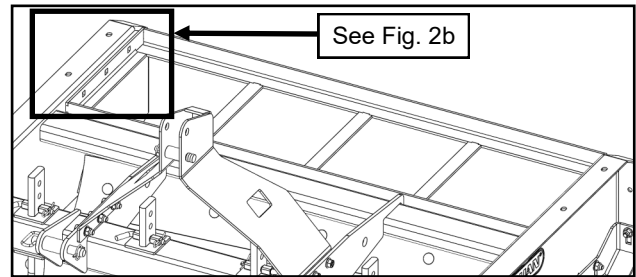
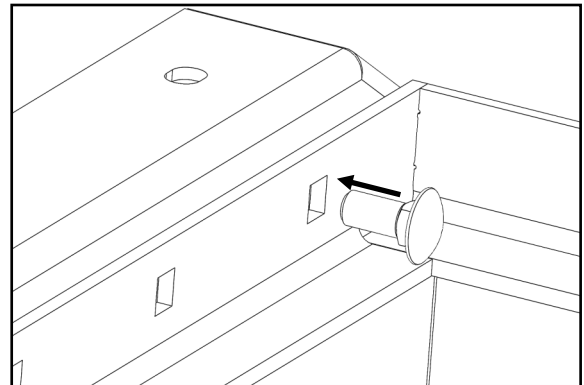

Fig. 2a (Cinder Block Holder Location)
Fig. 2b (Carriage Bolt Direction)
2. Hold the Cinder Block Holder in position as shown in Figure 2a and insert carriage bolts as shown in enlarged figure 2b.